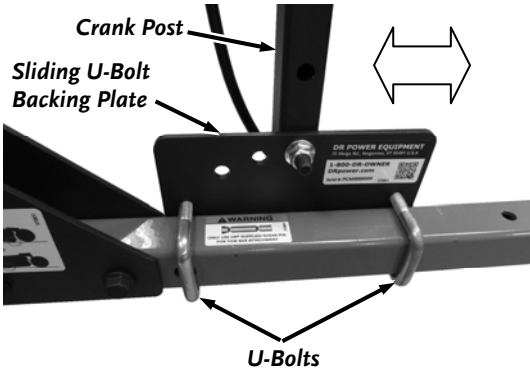

Figure 31
1. Loosen the Locknuts that secure the U-Bolts using a 9/16" Wrench (**Figure 31**).